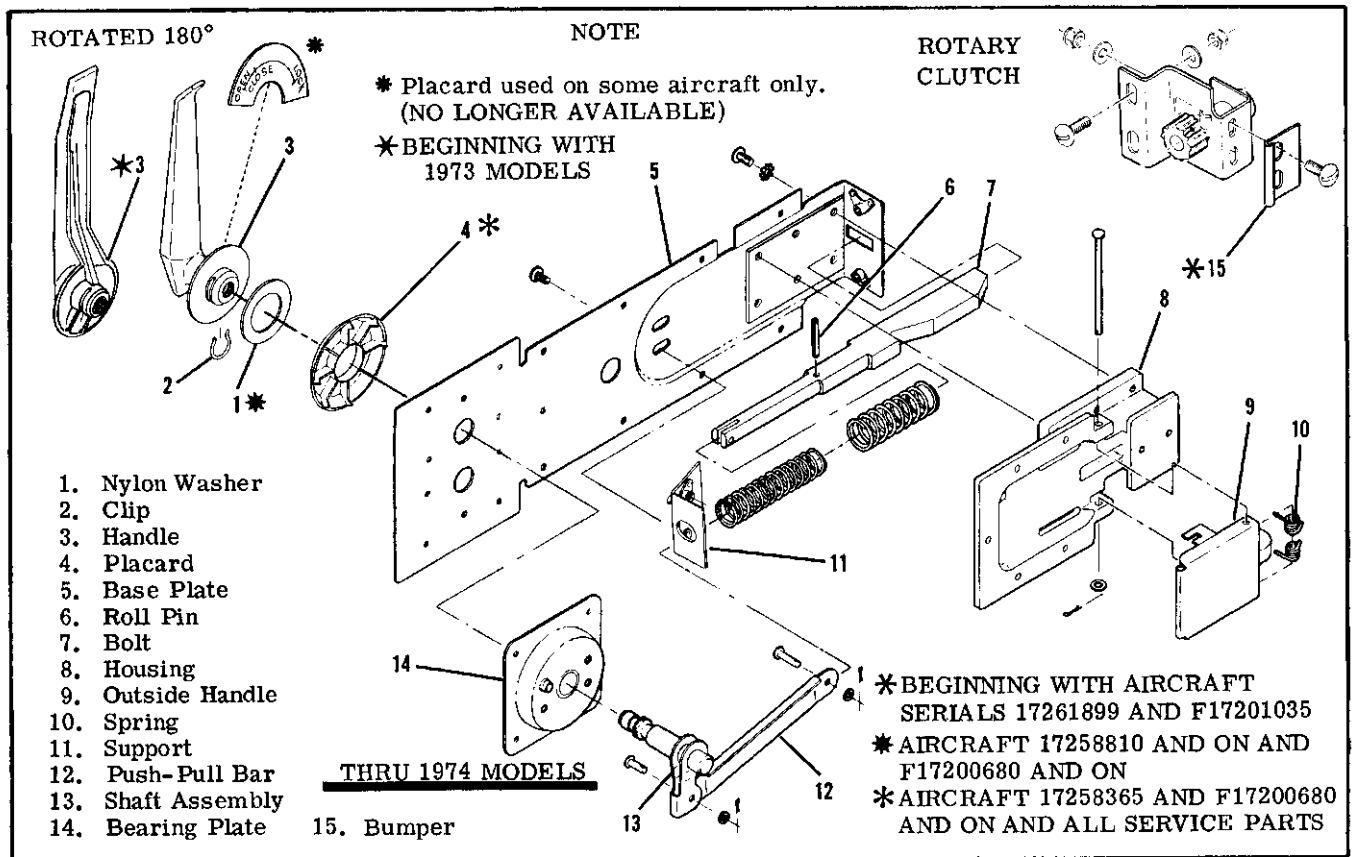

Figure 3-4. Door Latch Installation (Sheet 1 of 2)
3-24. LATCHES. (Refer to figure 3-4.)
Refer To Figure 3-4
3-28. INDEXING INSIDE HANDLE. (Refer to figure 3-4.) When inside door handle is removed, reinstall in relation to position of bolt (7) which is spring-loaded to CLOSE position. The following procedure may be used.
1. Temporarily install handle (3) on shaft assembly (13) approximately vertical.
2. Move handle (3) back and forth until handle centers in spring-loaded position.
3. Without rotating shaft assembly (13), remove handle and install placard (4) with CLOSE index at top and press placard to seat prongs.
4. Install nylon washer (1).
5. Install handle (3) to align with CLOSE index on placard (4) and install clip (2).
6. Ensure bolt (7) clears doorpost and teeth engage clutch gear when handle (3) is in CLOSE position.